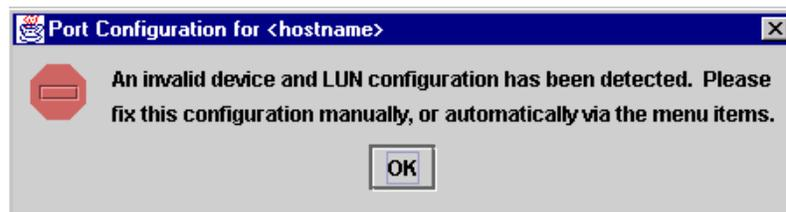

Figure 34. Port Configuration for Host Name message
- Right-click the host or adapter in the HBA tree. From the pop-up menu, click **Configure**. If FASTT MSJ detects an erroneous port configuration, the following message is displayed (see Figure 34). Click **OK** to continue.